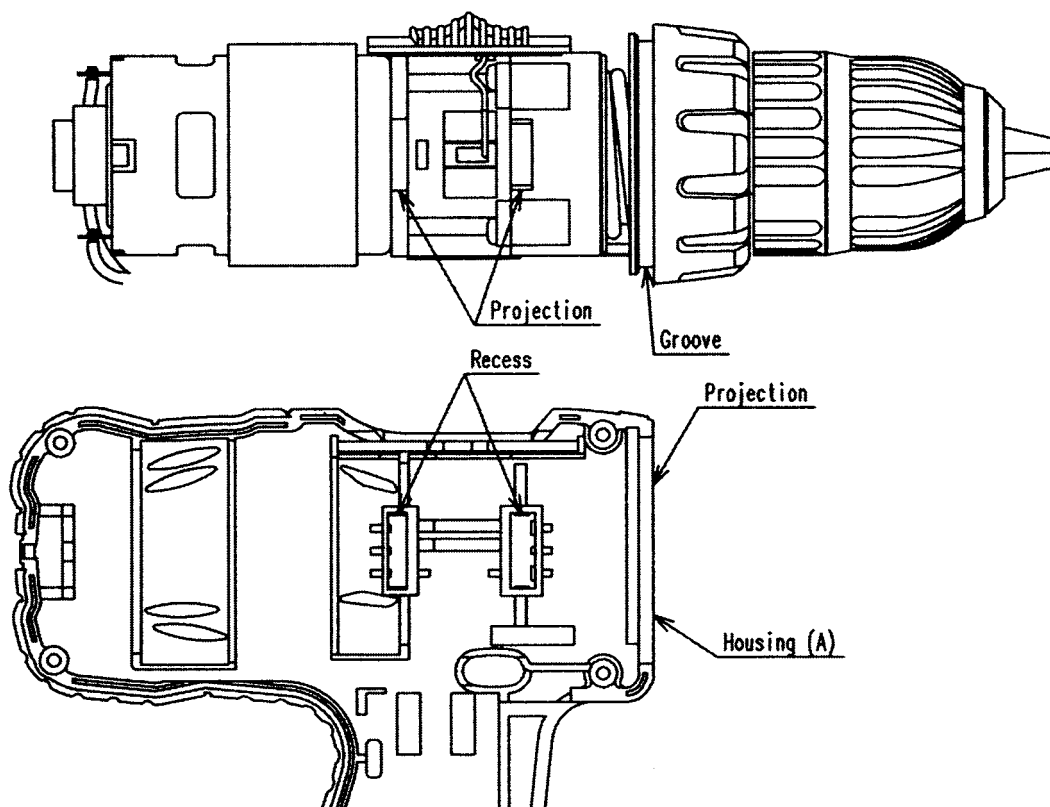

Fig. 14
(4) Installation of the assembly reassembled in step (3) into Housing (A). (B) Set [29] <30>
(a) Install the assembly reassembled in step (3) into housing (A). Note that the projections on the Front Case [9] <9> and the Motor Spacer [24] <24> are engaged in the recesses in housing (A), and the projection on housing (A) is engaged in the groove of the Clutch Dial [4] <4>. (See Fig. 14.)